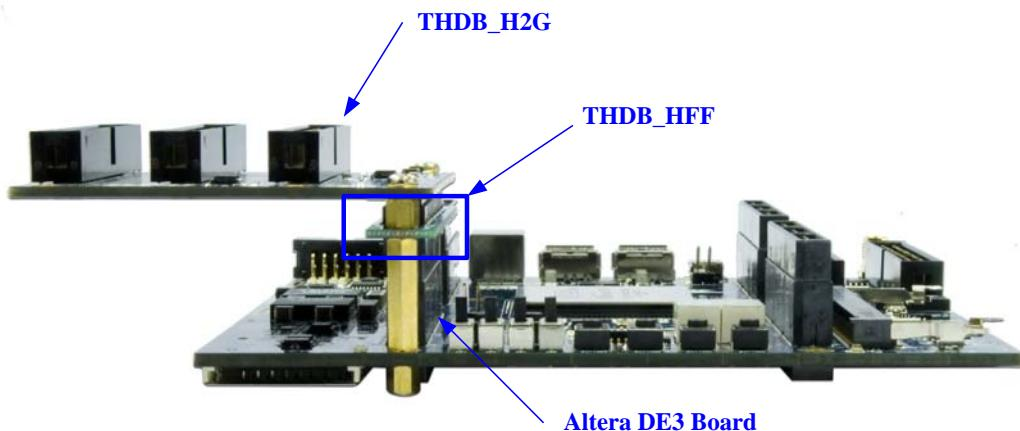

Figure 4.2 Connecting the THDB-H2G board to the Altera DE3 board
Figure 4.2 illustrates how the THDB-H2G board is connected to the Altera DE3 board. Users need to pay extra attention to the following two points:
1. Before connecting a THDB\_H2G with DE3 board, users need to find an adapter card named THCB-HFF from the DE3 package. The THDB-HFF is designed to connect two male-type HSTC/HSMC connectors. The THDB-H2G board can be connected to a DE3 board only via THDB-HFF adaptor card. Figure 4.2 shows the connection setup for the THDB-H2G and DE3 board.